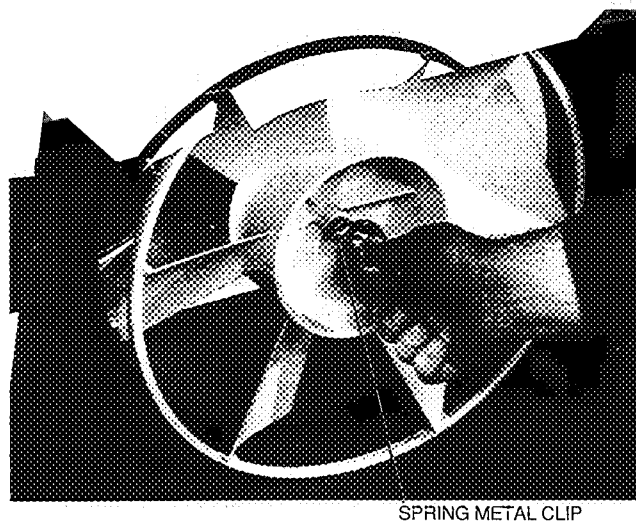

Fig. 23 – Removing Outdoor Propeller Fan
Outdoor Propeller Fan Removal (See Fig. 23)
3. Remove spring metal clip from fan hub. See Fig. 23.